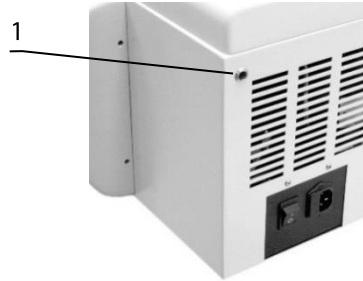

Figure 4. LMC4200R, right side
5.13.3 **LMC-4200R.** Insert the emergency opening tool into the slot on the right side of the unit, above the power switch (fig. 4/1). Push until a click is heard and open the unlocked lid.